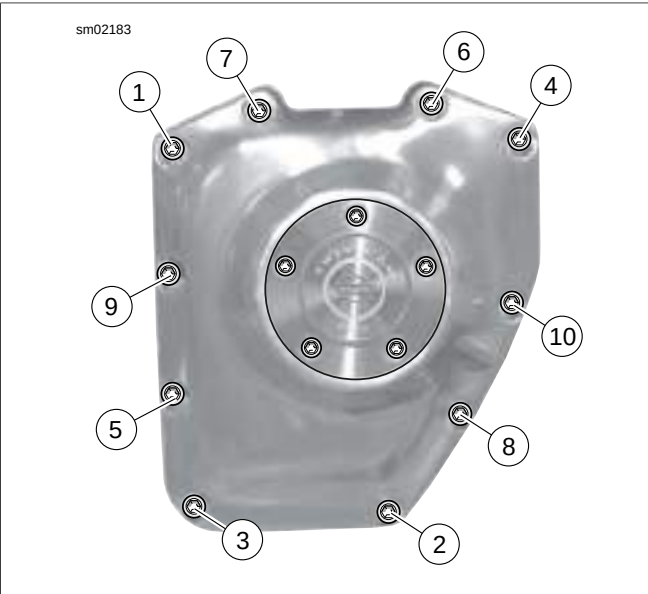

Figure 3-46. Cam Cover Screws
4. See Figure 3-46. Remove the ten allen head socket screws with captive washers to release the cam cover. Remove and discard the cam cover gasket.